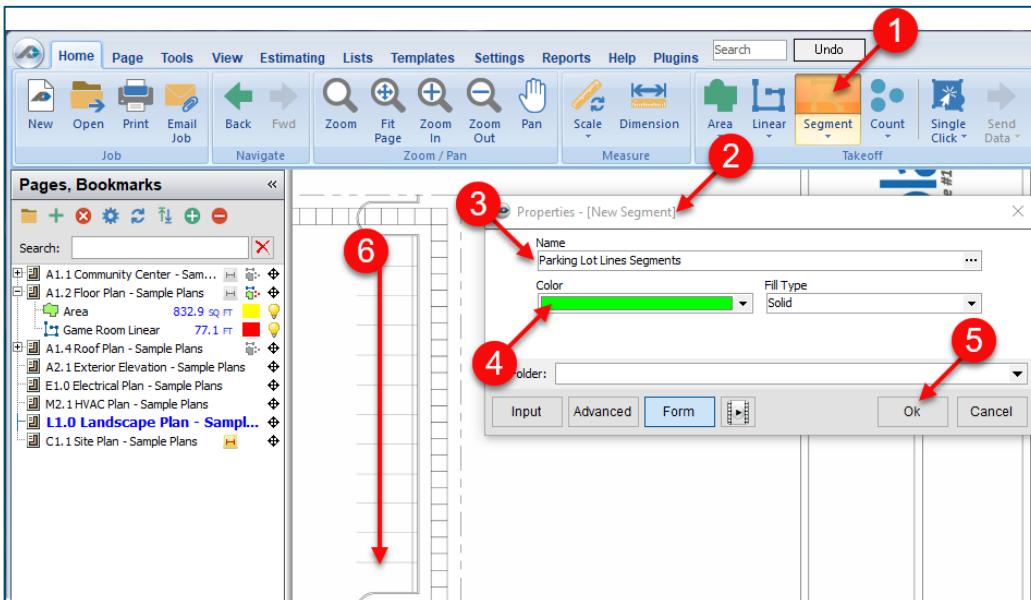

Figure 12-A
- Click on the beginning and end of each parking lot line, treating each as an individual segment. Press **M** on the keyboard if you wish to magnify the area for more accuracy (Fig. 12-B). Note that pressing **Ctrl + Z** will undo any **Point's** placement.